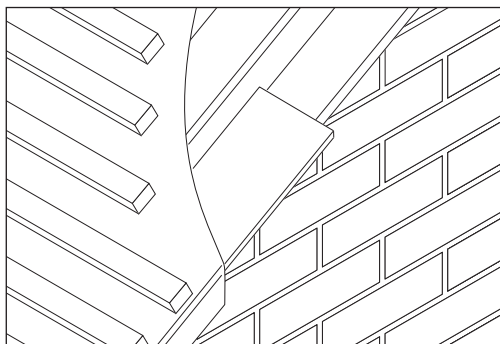

Fig 2 Fibre cement board to prevent bird ingress
- 3 Where cloak verge tiles are laid to maximum 50mm overhang, it is recommended that a strip of fibre cement board is fitted between tiling battens and wall or bargeboard to prevent ingress of birds (Fig 2).